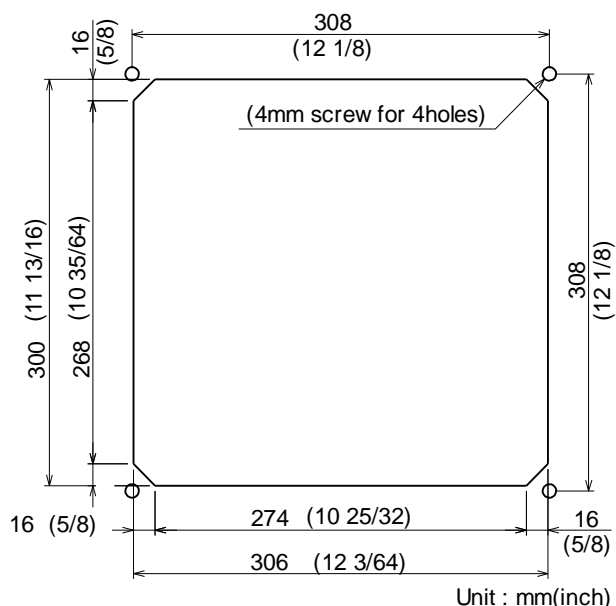

Figure 3.8 The opening and nut-holes for Display unit
- (1) Cut an opening and drill 4.0 mm (in the case of fixed nut) four nut-holes with the size shown in Figure 3.8, on the side for attachment of a Display unit on a panel.
- (2) Unscrew two knob bolts that hold the Display unit to the mounting bracket.
- (3) Remove the Display unit from the mounting platform and put it on a level place.
- (4) Detach four corner guard caps.